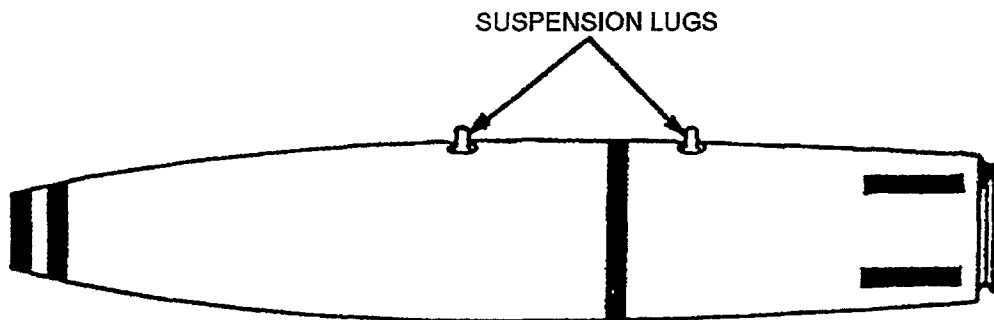

Figure 4-12A. Suspension Lug Installation
- b. Verify suspension lugs are screwed into lug wells until outer edge of bottom of lug eyes are flush with bomb body. In some cases, lugs may not screw flush; this is acceptable as long as there exists a 3-1/2 thread engagement (Figure 4-12A.)